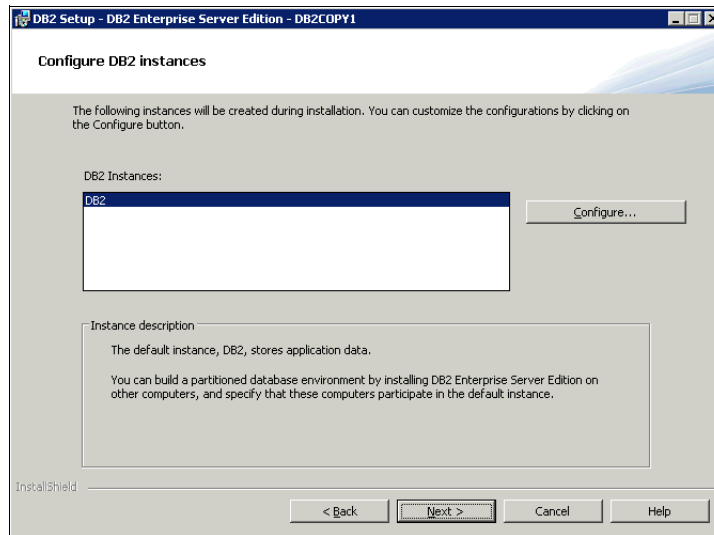

Figure 12-12 Configure DB2 instances
11. Accept the default DB2 Instance and click **Next** to continue (Figure 12-12).